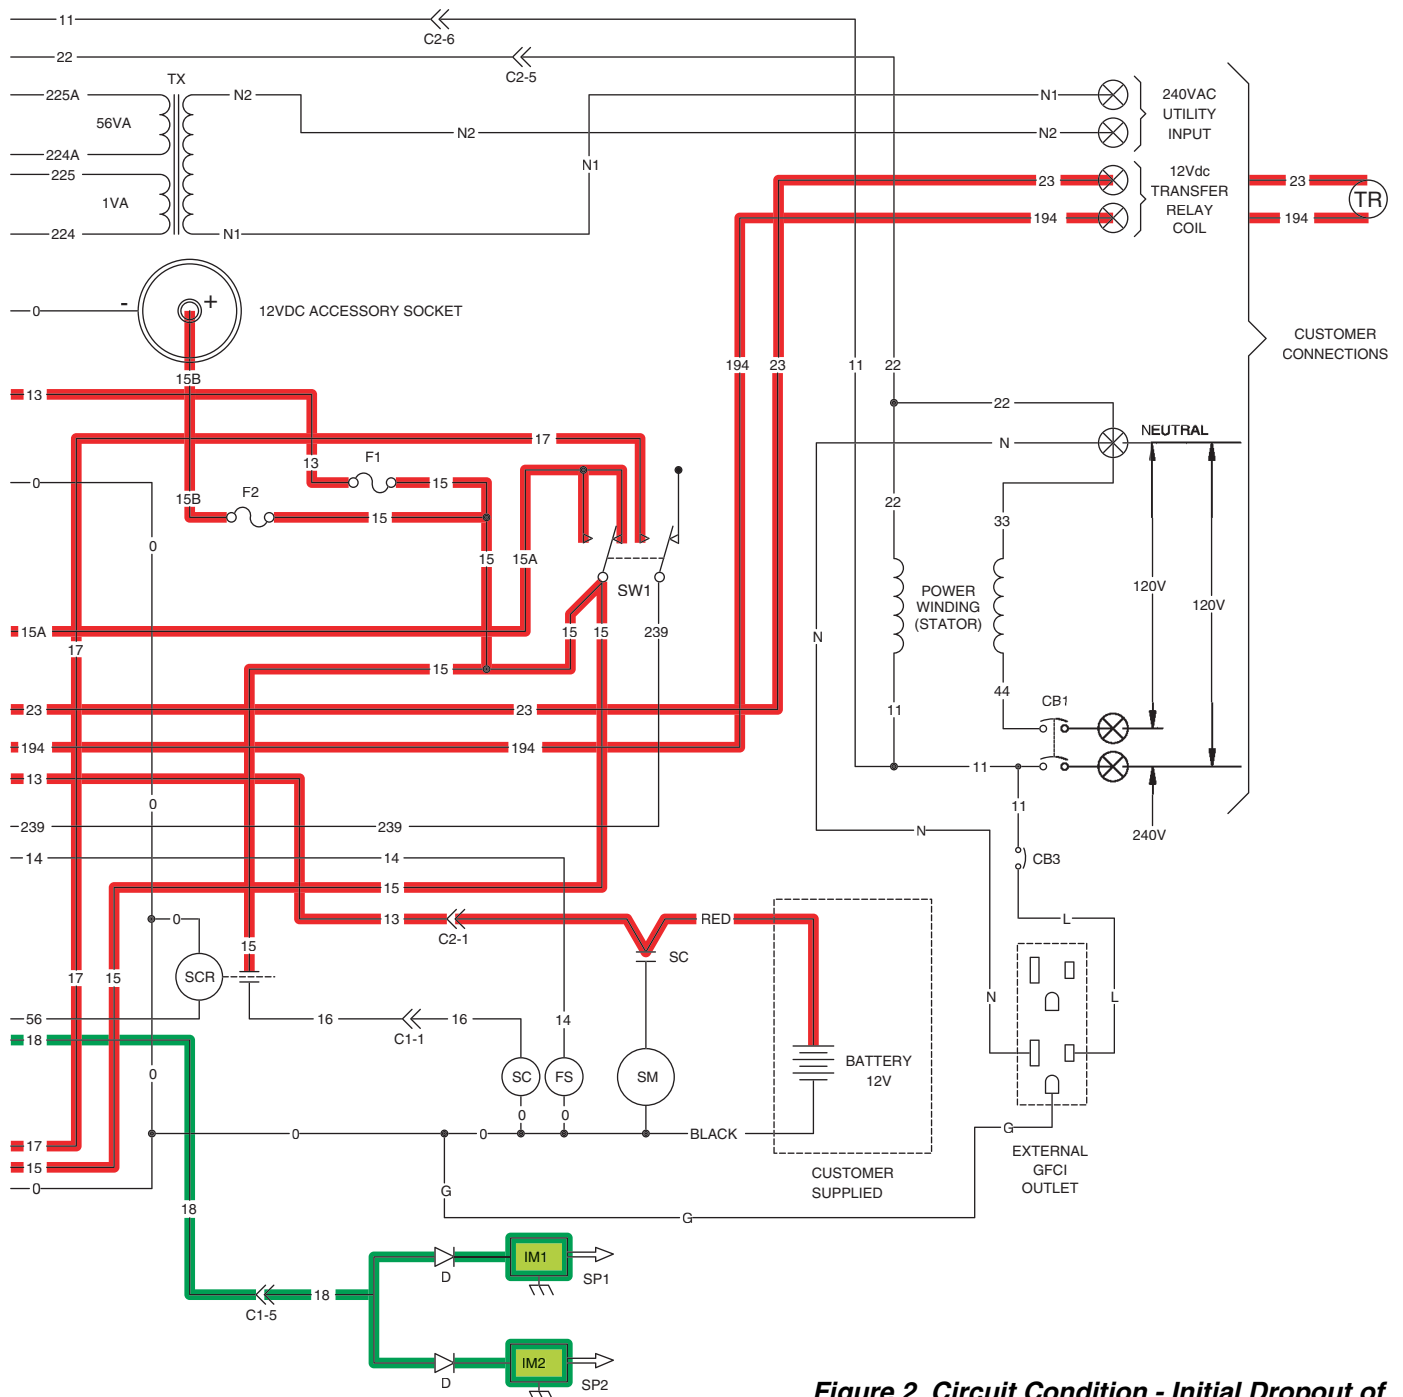

Figure 2. Circuit Condition - Initial Dropout of Utility Source Voltage
Refer to Figure 2, above. Should a "Utility" power source failure occur, circuit condition may be briefly described as follows:
- The circuit board constantly senses for an acceptable "Utility" source voltage, via transfer switch fuses F1/F2, transfer switch UTILITY 1 and UTILITY 2 terminals, connected wiring, control panel UTILITY 1 and UTILITY 2 terminals, the sensing transformer (TX), and Wires 224/225.
- In Figure 2, the 15-second timer is still timing and engine cranking has not yet begun.